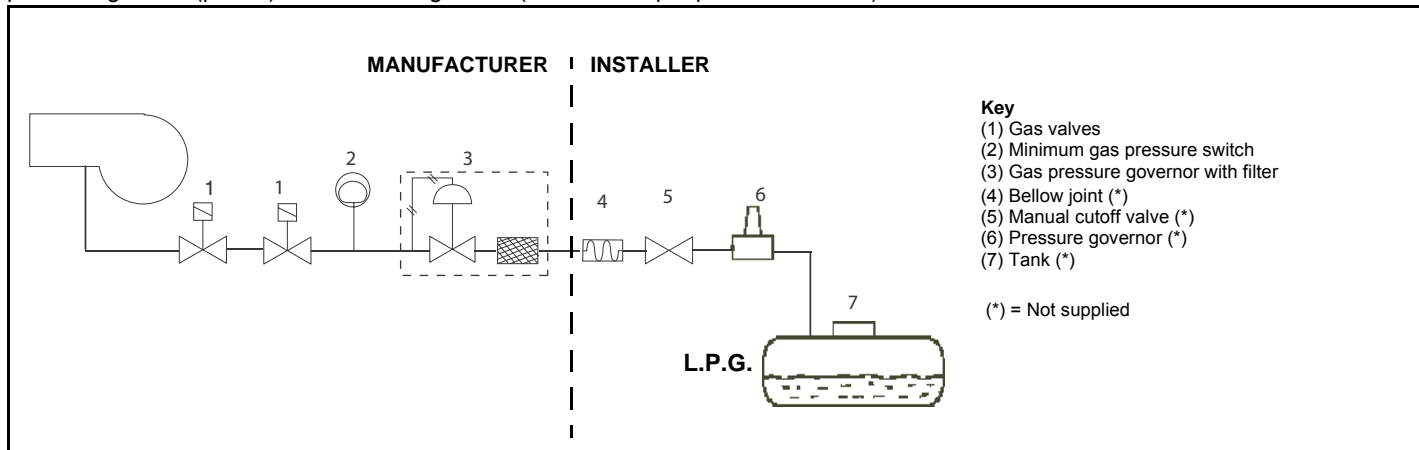

Fig. 16
**ATTENTION:** once the gas train is mounted according to the diagram on Fig. 16, the gas proving test must be performed, according to the procedure set by the laws in force.